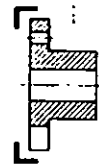

Fig. 1.1
- 3.2. When finishing rough bores, surfaces marked by bold lines (▬) in fig. 1.1 should be used as reference faces for correct bore concentricity.